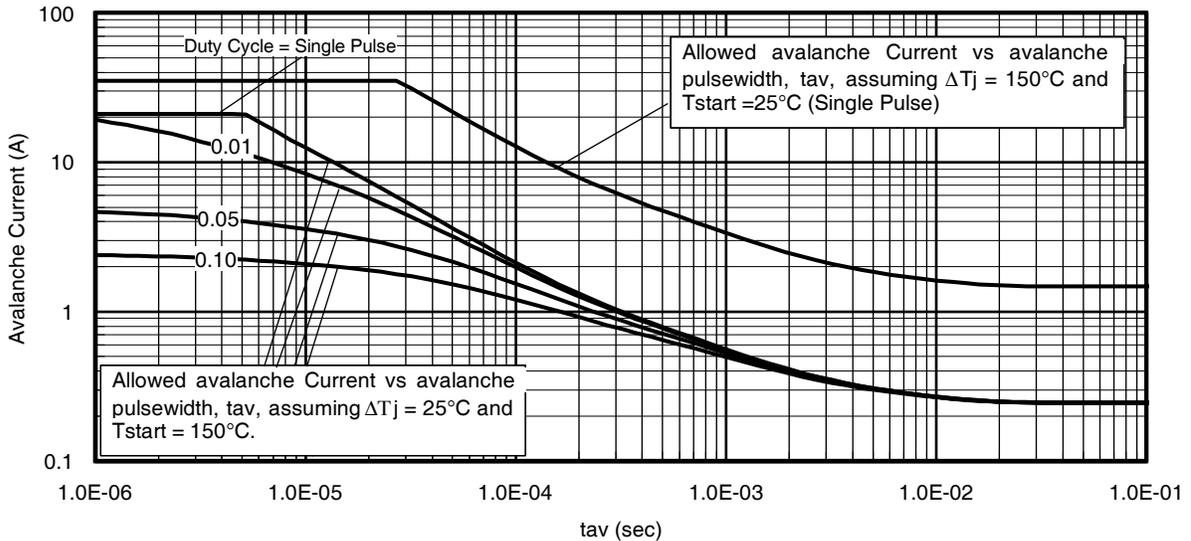

Fig 14. Typical Avalanche Current Vs. Pulsewidth
- ① Repetitive rating; pulse width limited by max. junction temperature.
- ② Starting $T_J = 25^\circ\text{C}$, $L = 0.51\text{mH}$, $R_G = 25\Omega$, $I_{AS} = 21A$.
- ③ Pulse width $\leq 400\mu s$; duty cycle $\leq 2\%$.
- ④ R_{θ} is measured at T_J of approximately 90°C .
- ⑤ Limited by T_{jmax} . See Figs. 14, 15, 17a, 17b for repetitive avalanche information
Notes on Repetitive Avalanche Curves, Figures 14, 15:
7. ΔT = Allowable rise in junction temperature, not to exceed T_{jmax} (assumed as 25°C in Figure 14, 15).